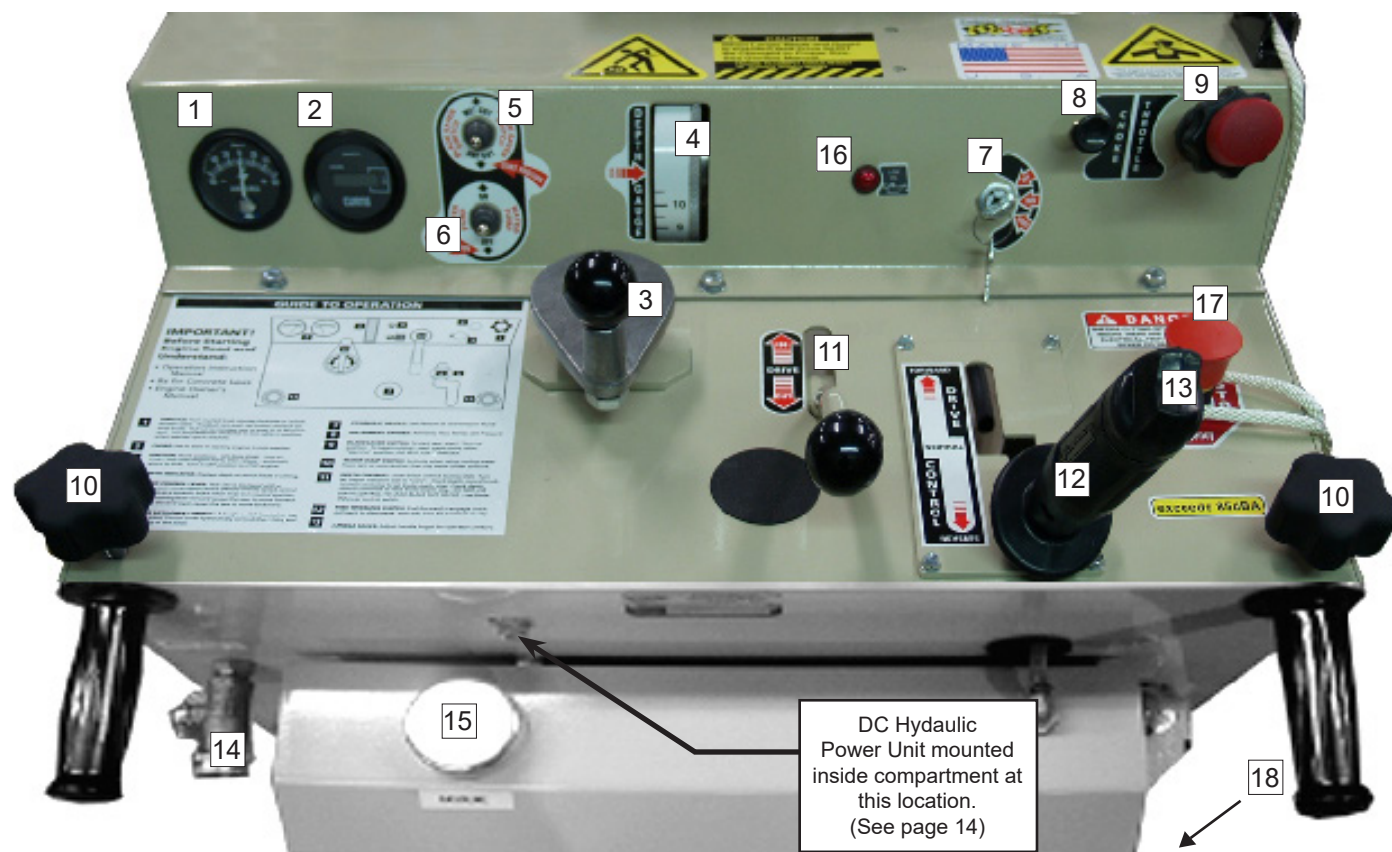

Figure 2
- Locate and be familiar with all engine and saw controls (*Figures 2 & 3*).
- Verify the Drive Control lever is in the Neutral (center) position. (*Figures 2 & 3*)
- Begin moving the machine into the cut by slowly pushing the grip drive selector lever forward until the saw reaches the desired forward speed for the blade and cutting conditions. Forward speed is directly proportional to the amount that the drive selector lever is pushed forward. Refer to figures 2,3,4 and 5 for location of controls. Refer to page 7 for SS-30E for cutting speed adjustment.